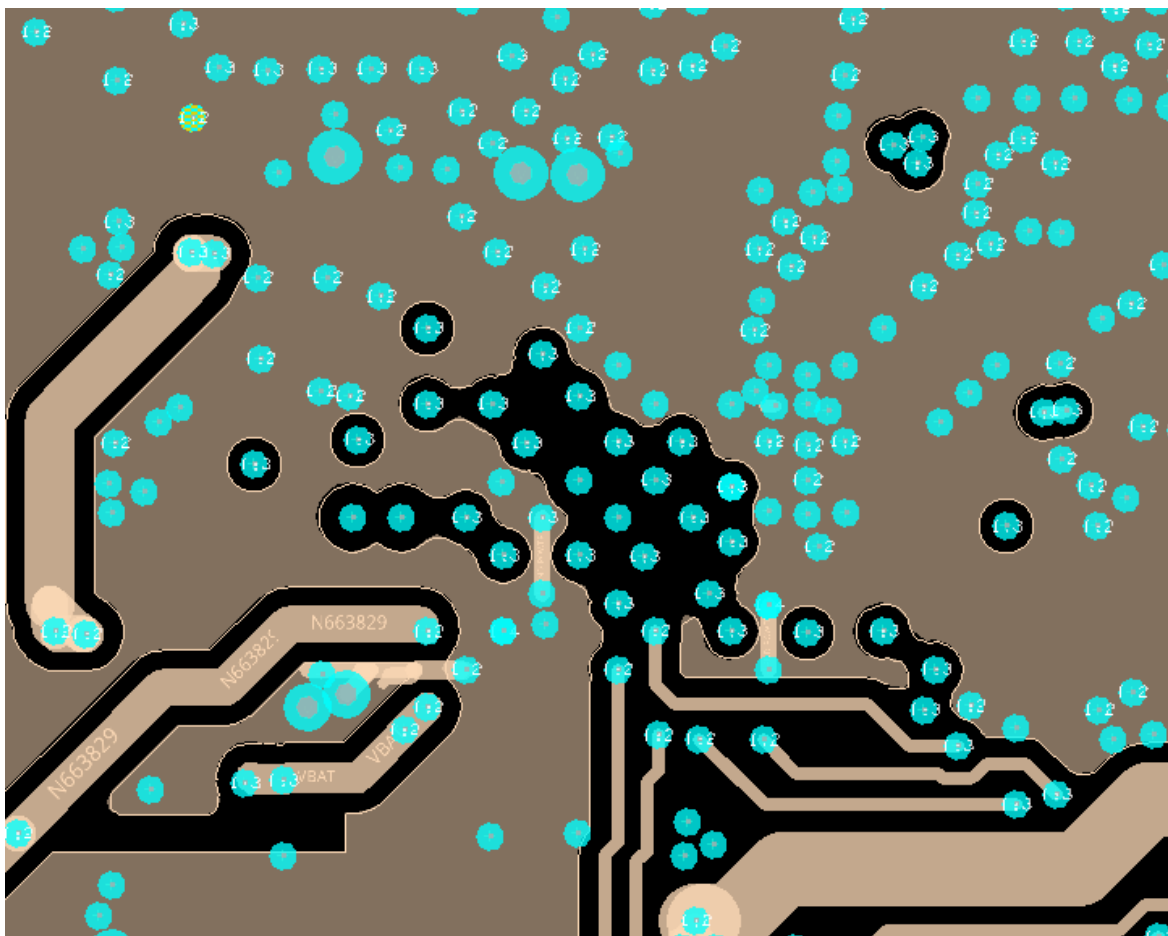

Figure 20. L2 internal layer, RA6W1 – WLCSP
- L2 internal layer is considered the reference GND plane for the RF of the chip. It is free of traces under the Chip and RF front-end area. This is important so there are no GND islands, which increase the distance of the grounding current. This is the layer where the RF traces impedance is referred to. GND vias from the chip are connected to this layer, see Figure 20.